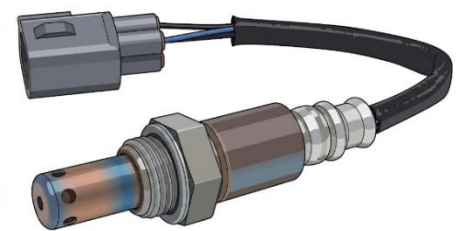

Fig.2.40: Oxygen (O₂) Sensors
The most common types of gas and emission sensors used in automotive applications include oxygen (O₂) sensors, which measure oxygen levels in the exhaust to optimize combustion (Fig.2.40); carbon monoxide (CO) sensors, which detect the presence of this toxic gas; and nitrogen oxide (NO_x) sensors, which monitor emissions from the engine to meet environmental regulations. Together, these sensors help vehicles operate efficiently while reducing their environmental impact and improving passenger safety.